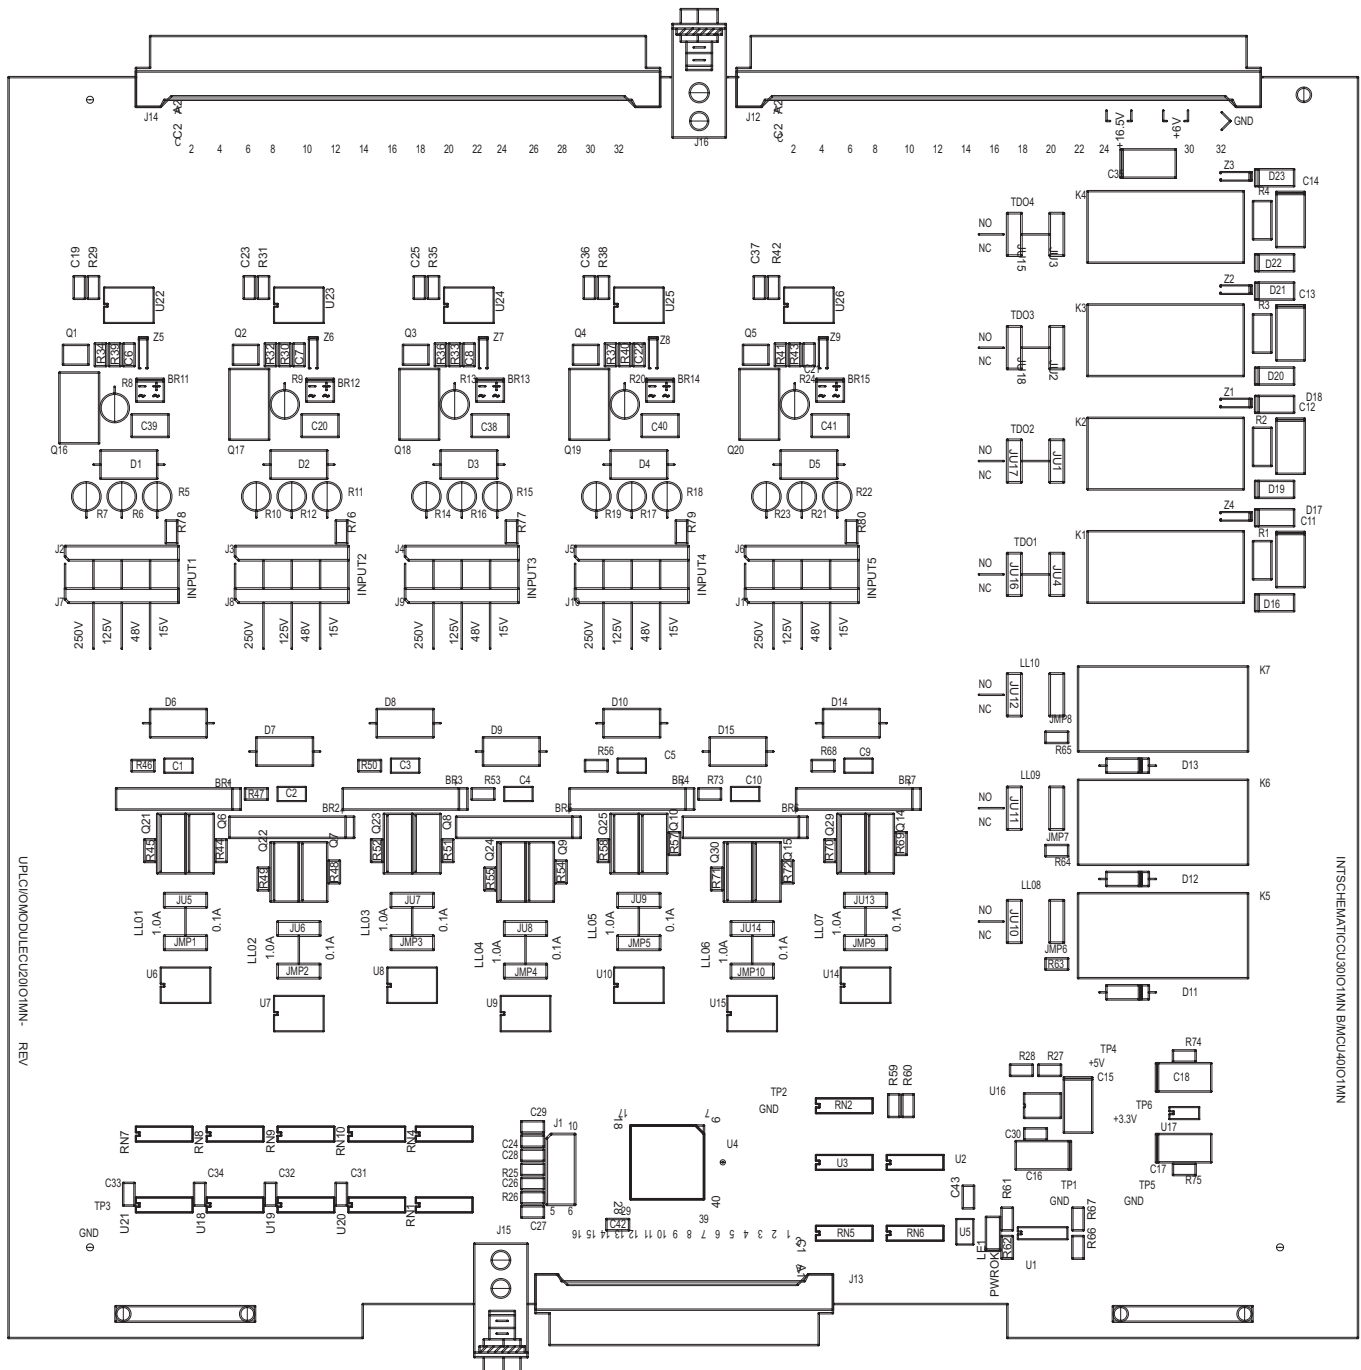

Figure 3. I/O Module Component & Jumper Locations (Rev. 9) II
The Power Supply Module has an alarm relay to indicate failure of the module. This is a “fail-safe” alarm and is therefore energized if the module is functional. Jumpers JMP1/JMP2 allow setting contact output as normally open (NO) or normally closed (NC) (Fig. 3). Jumper, JMP3 (PWR ON/PWR OFF), allows the power supply to be placed in the chassis and remain in the off state. For normal operation, the jumper should be in the “Pwr On” position. Put this jumper in the “Pwr Off” position if it is desired to place the power supply in the chassis and have the unit remain powered down. JMP1/2, on the daughterboard, lets you choose between 200mA & 20mA, for interfacing with various relays, with JMP3 for 8V/20V/46V.